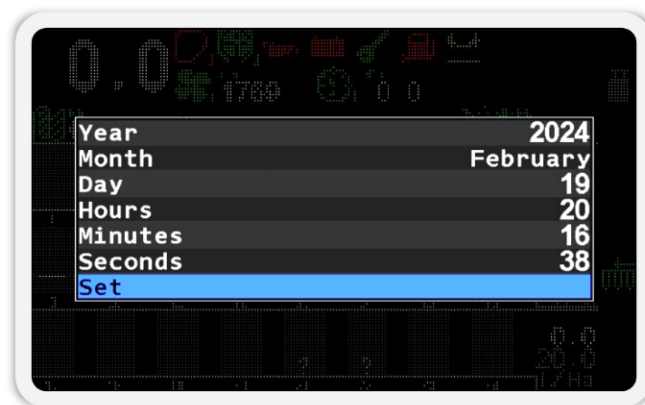

Figure 70 “Change Date & Time” menu
11.7.7.  **Change Date & Time** - is used to go to the menu where you can set the current date and time (see Figure 70). To set the date and time values displayed in the menu items, select the  “Set” menu item and press the  “Menu” button. To cancel changes, you have to press the  “Back” button.